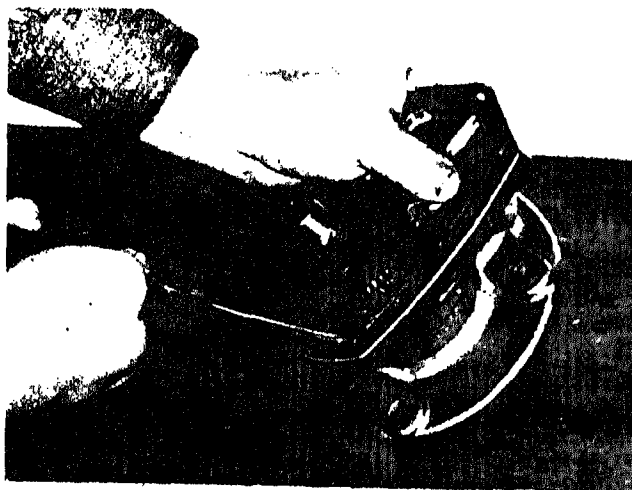

Fig. 506-2 Removing snap ring from groove
6. Remove large snap ring from pump end of drive shaft between drive cover and drive gear. Fig. 506-2.